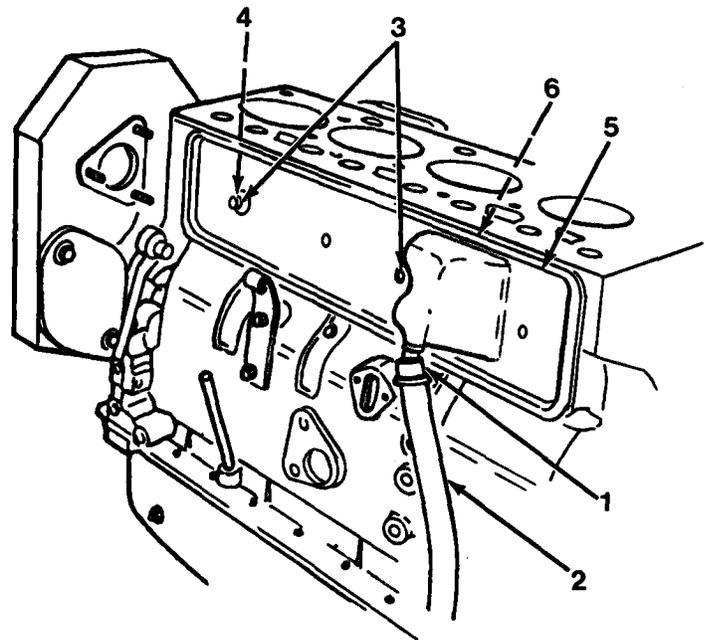

Figure 6-1
4. Remove spring hose clamp (1) and hose (2) from tappet cover (5, Figure 6-1).
5. Using a 10 m socket, remove two capscrews (3), capscrew seals (4), tappet cover (5) and tappet cover gasket (6) from block. Remove all gasket material from mounting surfaces.